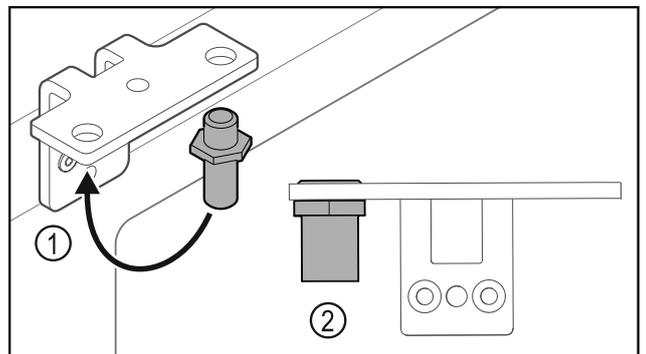

Fig. 36
- ▶ Put the pin back into the hinge Fig. 36 (1).
- ▶ Tighten the pin Fig. 36 (2) to a **torque of 12 Nm**.